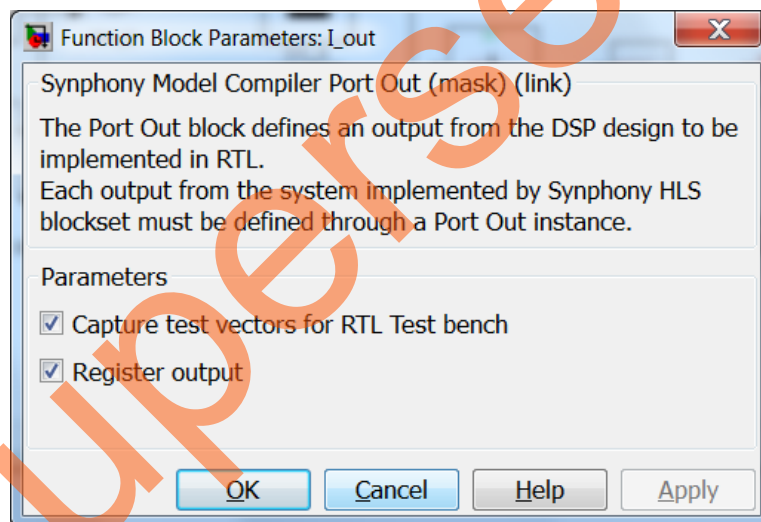

Figure 4. Setting the Output Port I_out
6. Click **I_out**, and on the **Function Block Parameters** dialog box select the **Capture test vectors for RTL Test bench** and **Register output** check boxes, as shown in Figure 4.